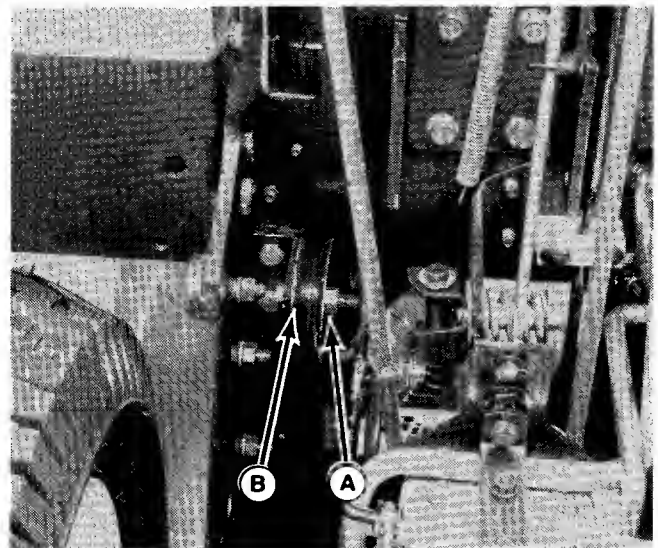

Figure 22.
2. Loosen nut (A, Figure 22) on rear idler pulley (B) and remove tiller belt from pulley.
7. Reinstall tiller belt on pulley (A, figure 22) and tighten nut.